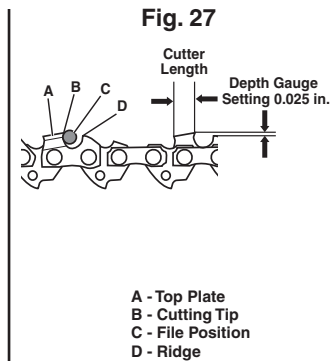

Fig. 27
Purchase a new chain or have your chain sharpened professionally at a qualified service center, or sharpen the chain yourself by using a proper sharpening kit. Also observe the sharpening instructions supplied with the sharpening kit. The height difference between the cutting tip and the ridge is the depth gauge setting. (See Fig. 27)
- Keep all cutter lengths equal (See Fig. 27). Each time the cutting tip is sharpened the cutting length is reduced. When the cutter length is reduced to 0.16 inch (4 mm) the chain is worn out and should be replaced.
- The depth gauge setting is also reduced with each sharpening. Every 5 sharpenings use a depth gauge measuring tool to check the height between the cutting tip and the ridge (See Fig. 27). When necessary use a flat file to file down the ridge to achieve the .025 inch depth gauge setting. Depth gauge measuring tools are available from most chainsaw retailers.